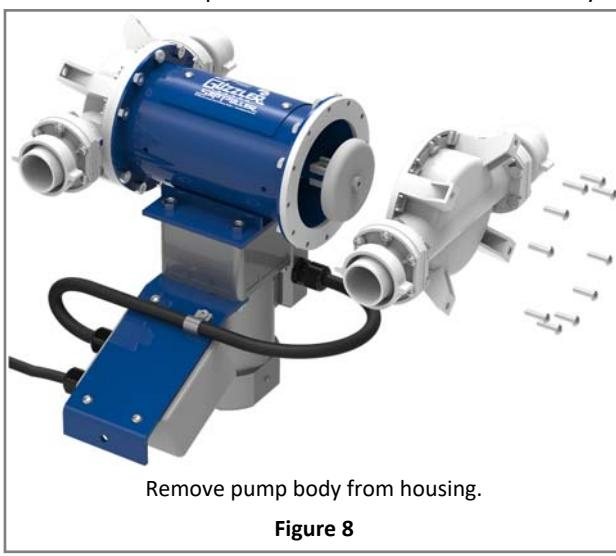

Figure 8
4. Remove the 10 screws holding the pump body to the housing. (Figure 8)